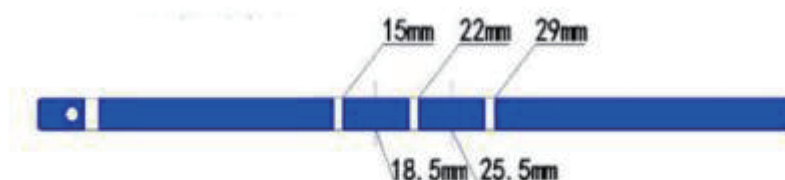

Figure 1 Guiding sheath development marker
- A. Position: Plane of maximum diameter of the Occluder should be at or just distal to the LAA stium, where possible (see Figure 1), while meeting all other PASS criteria.